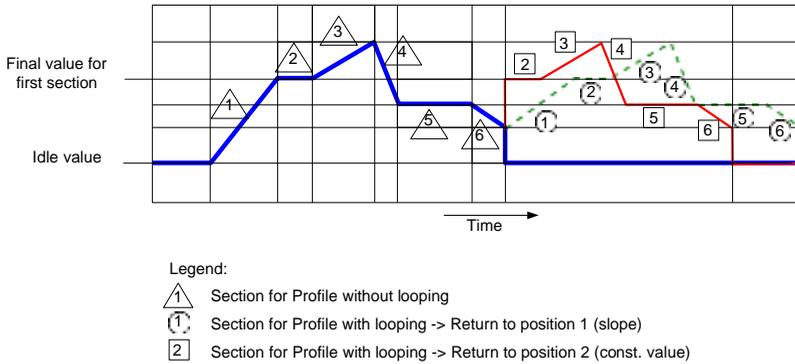

Fig. 7.107. Sample of Profile/timer with description of parameters
- if the section from which begins the next repeat Profile/timer is a **ramp**, then in the whole duration of this section is linear generating the output signal from the **final value** of the previous section to **final value** of this section. This is shown in **Fig. 7.107** (dashed line-run profile)
- if the section from which the next repeat of the Profile/timer begins is a constant value, then Profile signal quickly transient (0.1 seconds) from the **final value** of the previous section to a **constant value** in this section. This is shown in **Fig. 7.107** (profile guided fine line).